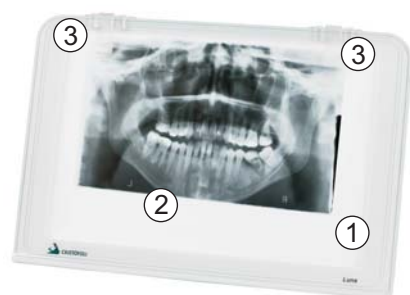

Fig. 1
- 2► Fit both plastic clips on the upper side of the screen. The side with only one central holder facing forward (Fig. 1);
- 5► Use the plastic clips at the top of the viewing area to hold the x-ray in place for visualization (Fig. 1);